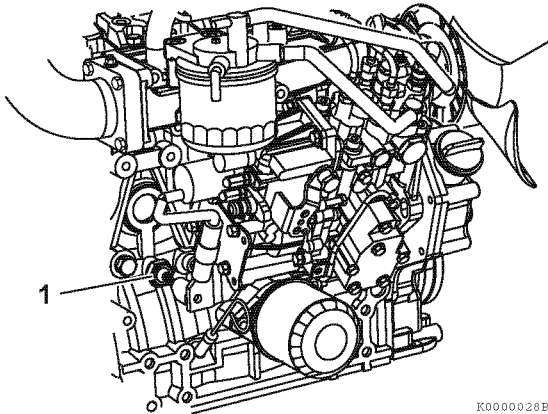

Figure 9-2
1. Disconnect the wire lead from the oil pressure switch or sending unit (1, **Figure 9-2**).